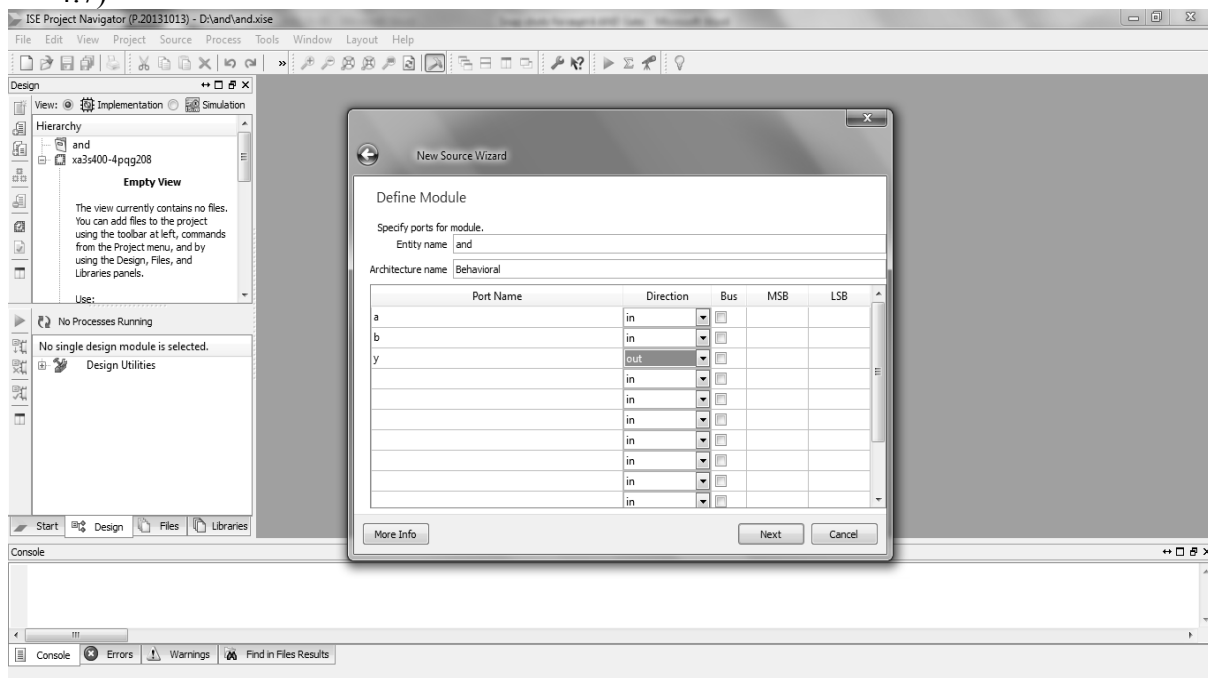

Fig 4.6: Define Entity
3. Define Module: Enter the entity used in design and then click “Next”. (refer fig.. 4.6 and 4.7)